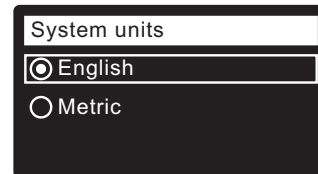

FIG. 19
- SYSTEM UNITS** If the desired system already has a dot next to it (See Figure 19), go to Step 18. Otherwise, press the DOWN (▼) or UP (▲) buttons to scroll to the desired system, then press the SELECT (O) button to choose it.
- Press the SELECT (O) button.